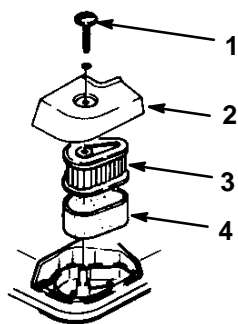

Figure 16
2. Remove the bolt securing the air cleaner cover (Fig. 16).
3. Remove the cover and clean it thoroughly (Fig. 16).
4. Remove the foam pre-cleaner and wash it with a mild detergent and water, then blot it dry (Fig. 16).
6. Remove the paper air filter and discard it (Fig. 16).